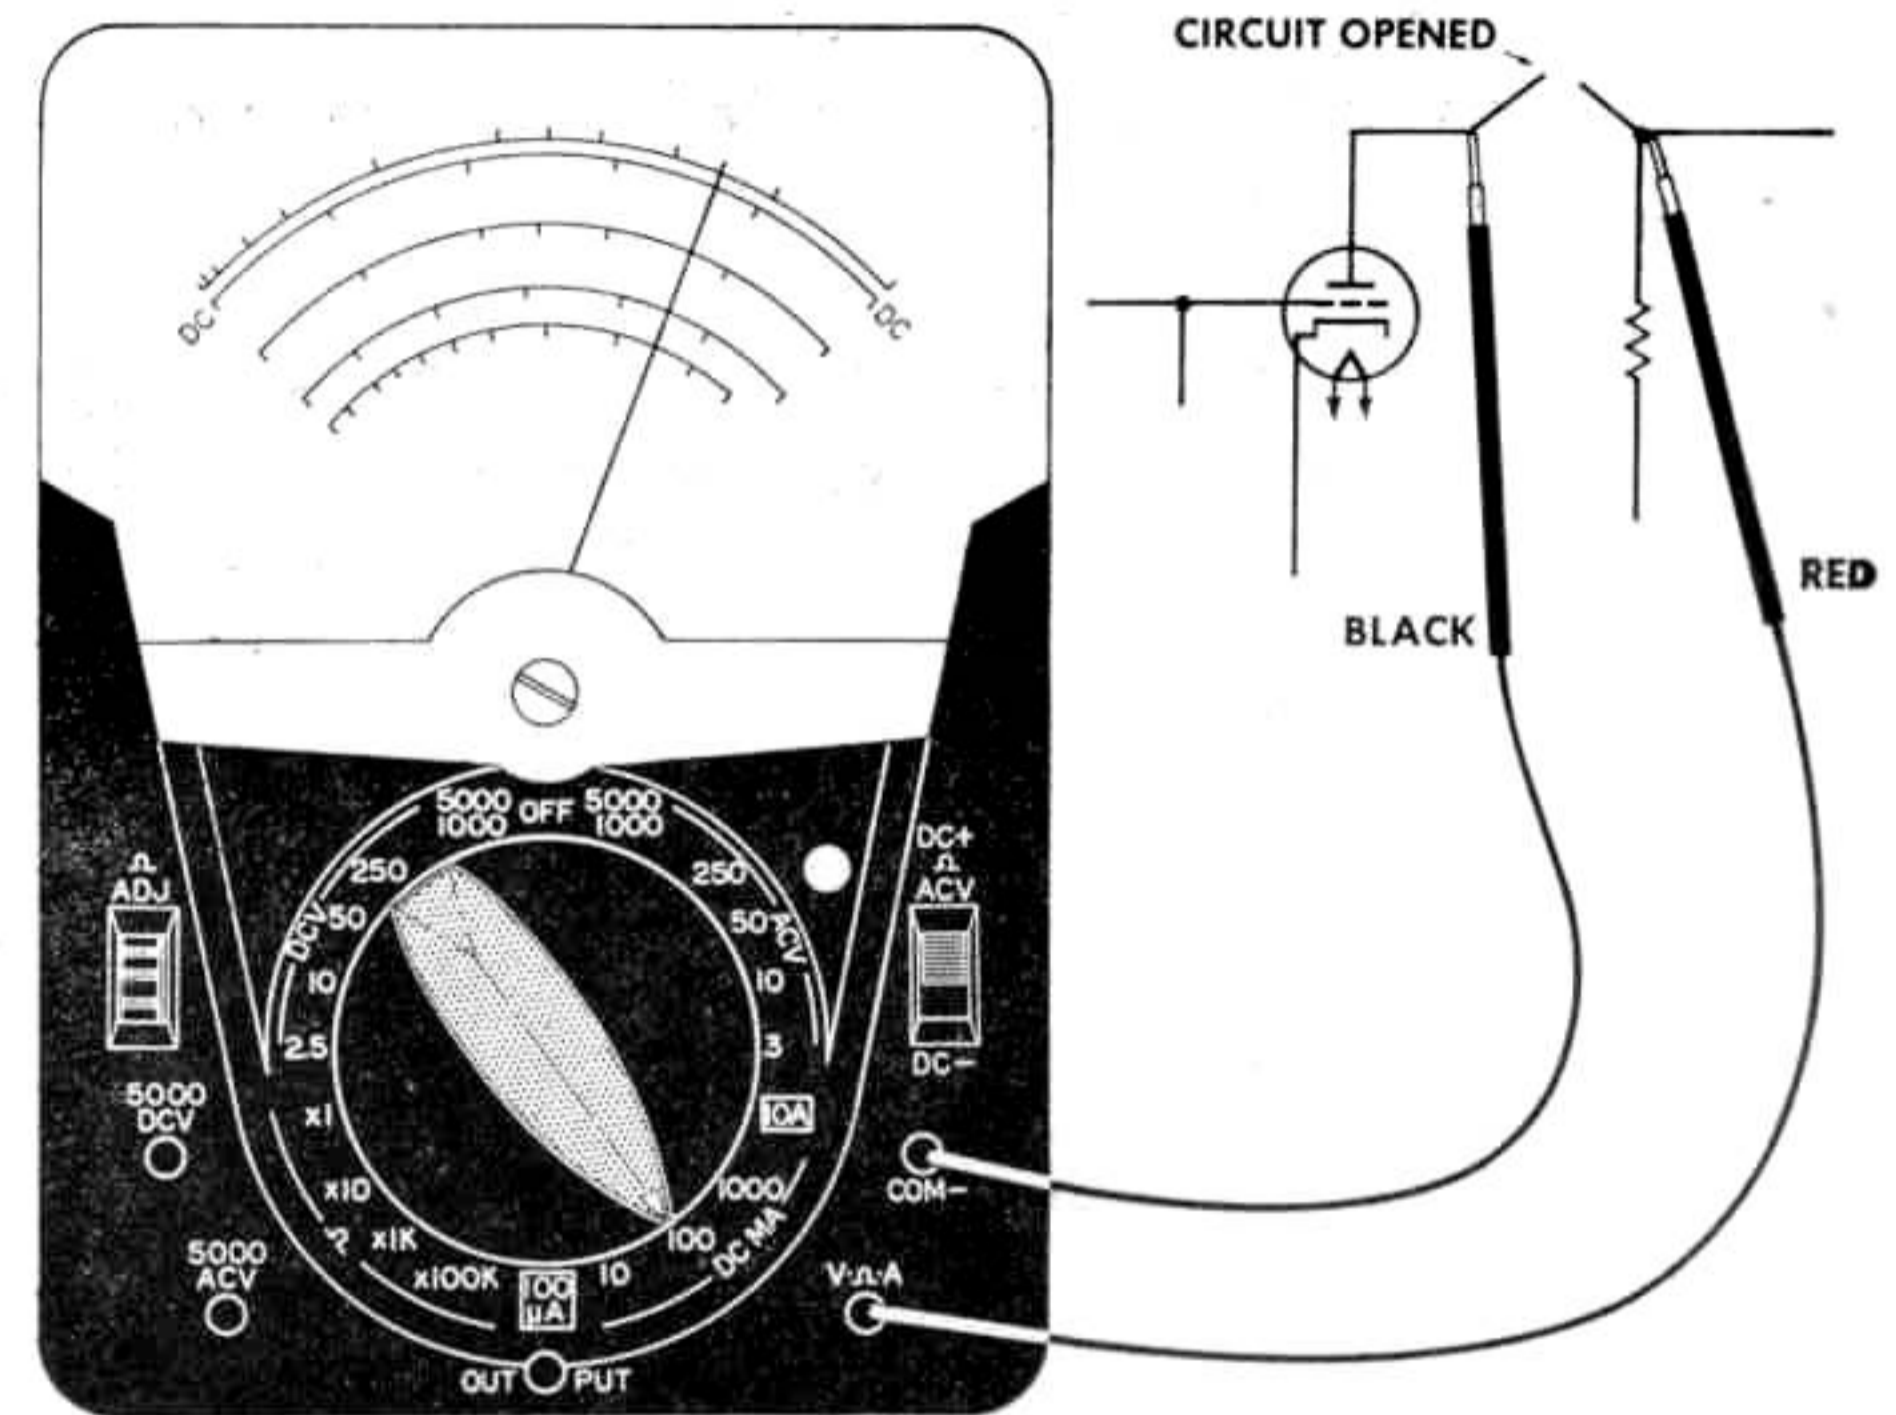

Fig. 3. Measuring DC Current.
3. Connect the test probes in series with the circuit (use alligator clips) as shown in Fig. 3.